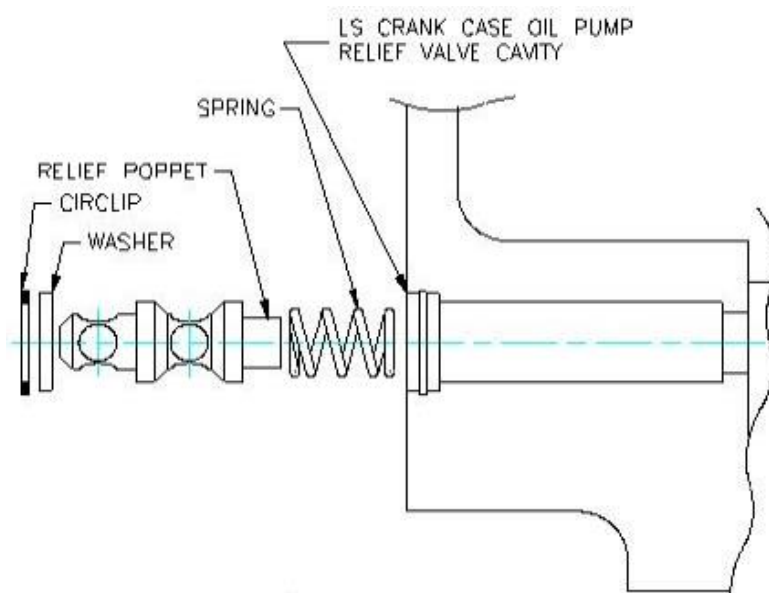

Figure 210 – Oil Pressure Relief Valve Assembly
- Fit the components of the valve as shown in Figure 210. Ensure the circlip is fitted with the flat face outwards and the curved face inwards – and that it “snaps” into position clearly when fitting.